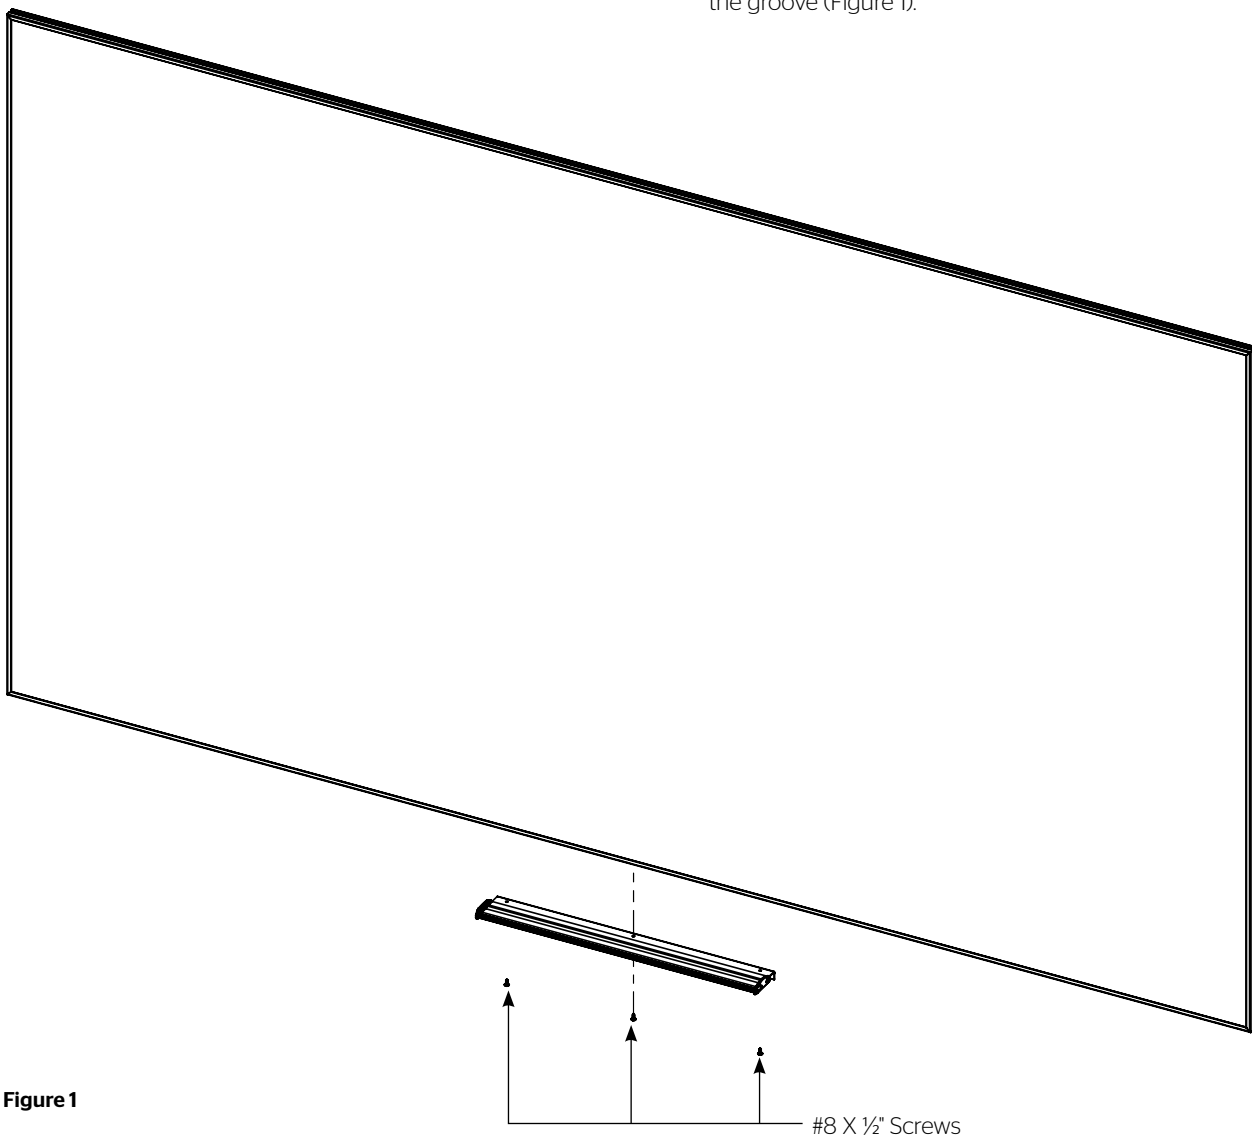

Figure 1
2. Center aluminum tray to the bottom of frame and attach with (3) of the provided #8 x 1/2" screws. Insert screws through the tray into the groove (Figure 1).